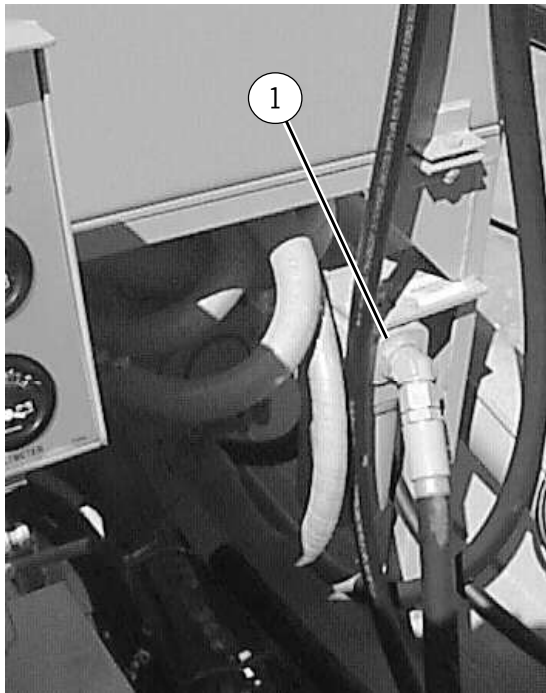

Fig. 5-1 Hydrostatic Filter Location
The hydrostatic drive is a precision power transmission, built for many years of trouble-free operation. Only one preventive maintenance step is necessary to ensure the life of this unit: **Cleanliness**. There is a 5-micron filter mounted under the hydraulic oil tank (fig. 5-1). The filter element should be changed after the first fifty (50) hours of operation and every 200 hours after, or when the indicator shows red.